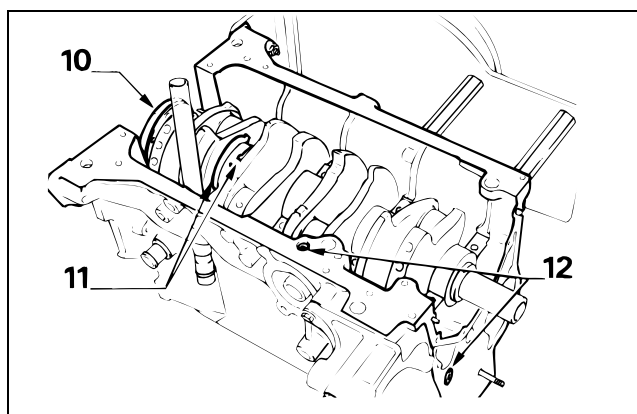

Figure 63
5. Remove the oil seal (Fig. 63, Item 10).
11. Remove the plugs (Fig. 63 and 64, Item 12) from the oil galleries.